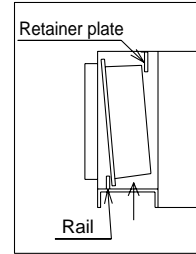

Fig.5
(2) Insert the filter from the bottom. (Fig. 5)